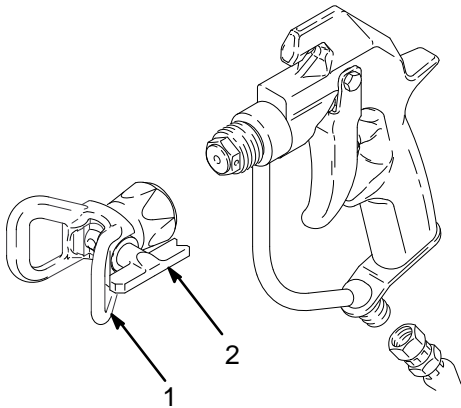

Fig. 2
1. Connect a grounded fluid hose to the gun inlet. See Fig. 2.